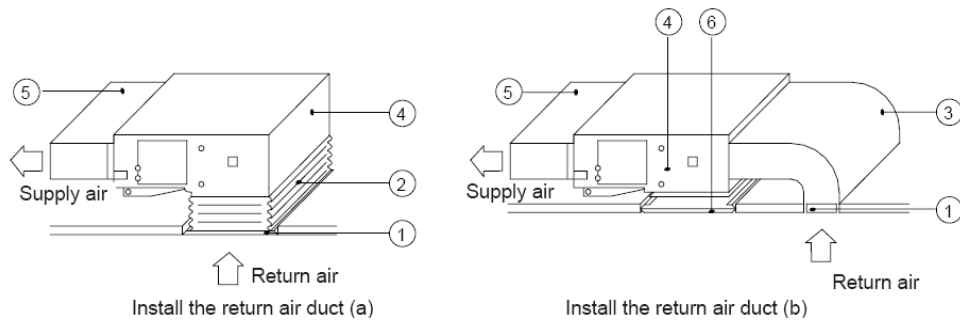

Figure 3-1-22
(3) If the bottom return air is desired, just change the place of the rectangular flange and the return air cover plate.
(4) Connect one end of the return air duct to the return air outlet of the unit by rivets and the other to the return air louver. For the sake of the convenience to freely adjust the height, a cutting of canvas duct will be helpful, which can be reinforced and folded by 8# iron wire.
(5) More noise is likely to be produced in the bottom return air mode than the backward return air mode, so it is suggested to install a silencer and a static pressure box to minimize the noise.
(6) The installation method can be chosen with considering the conditions of the building and maintenance etc., as shown in Figure 3-1-22.